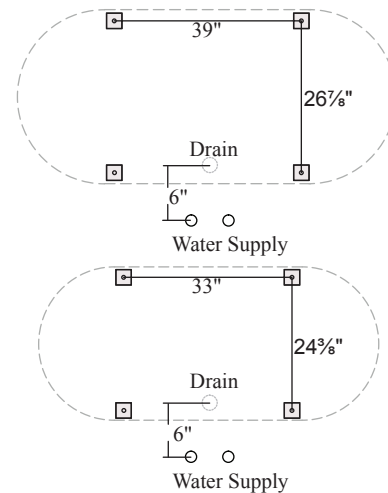

Figure 19. Securing the Bathtub
- Measure 6" from the center of the water supply line to the center of the bathtub drain opening (Figure 19).